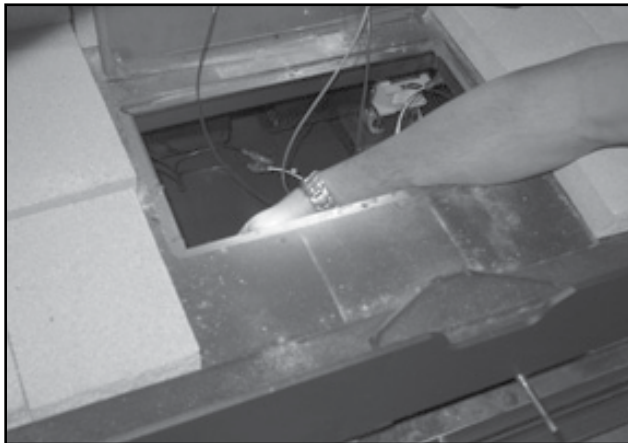

Figure 37.2
7. Place your hand into the access door in the floor of the fireplace. Let the timer assembly and plate drop down and rotate it up through the access door. You will be looking at the back side of the assembly. Figures 37.2 & 37.3.